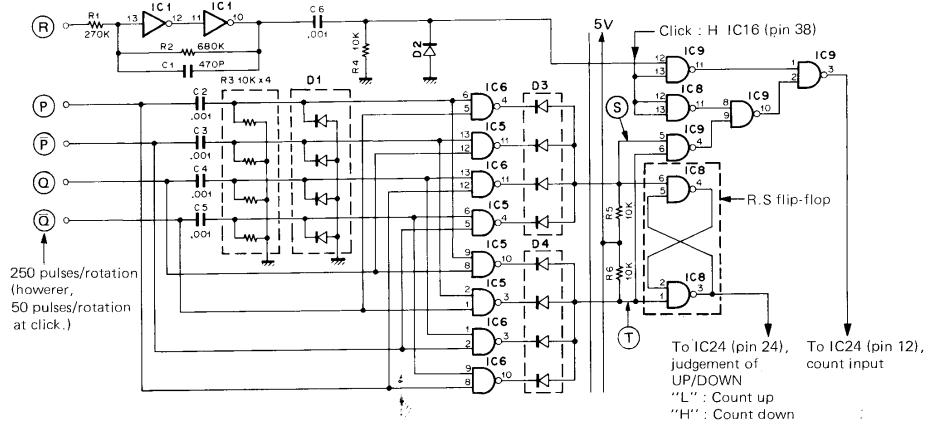

Fig. 13 Output waveform of main encoder
Fig. 12 shows the configuration of the encoder section. The control pulse of the main dial "click" detent mechanism is as shown in **Fig. 13**. When operating the [CHO], [CS], [VFO/M], [M▶V], [SELECT], etc., keys, the CPU performs its associated process, judges whether or not the dial is detented, and inputs the status signal of the sensor (pin PS) to IC16 PC0 (pin 14). For example, when the dial retent is activated, as when the dial is already detented when pin PS is "H", the process ends. However, when pin PS is "L", a 100msec pulse is emitted from PA3 IC16 pin 17, thereupon the plunger drive pulse (PN) is emitted through the switching operation of Q12 : DTC143T(S), Q13 : 2SC2459(Y) or Q14 : 2SA1307(Y).